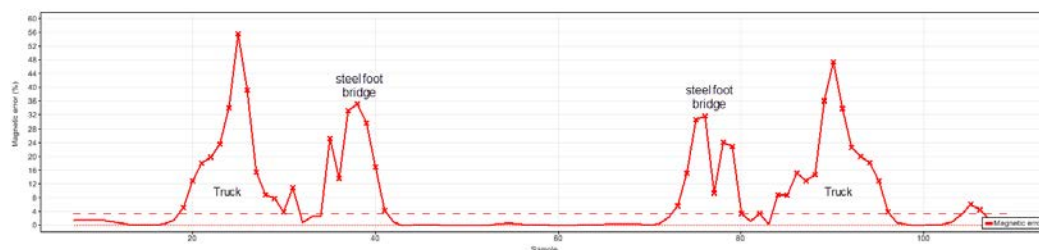

Figure 39. Magnetic error time series plot showing high magnetic error %.
1. **Magnetic error (%)** – A new addition with the G3 compass is the ability to plot a time-series of magnetic error both in real time and in post-processing. Magnetic error is the percent difference between the magnetic field during measurement and the mean field seen during calibration. A magnetic error equal to 3.5% indicates that you may be introducing a heading error of up to 2 deg. **Lower is better**. A high value means the magnetic field is different than it was during calibration. For example, the M9 might be crossing a buried pipe, you might have changed the transducer depth since calibration, the boat motor might be revving, etc (Figure 39).